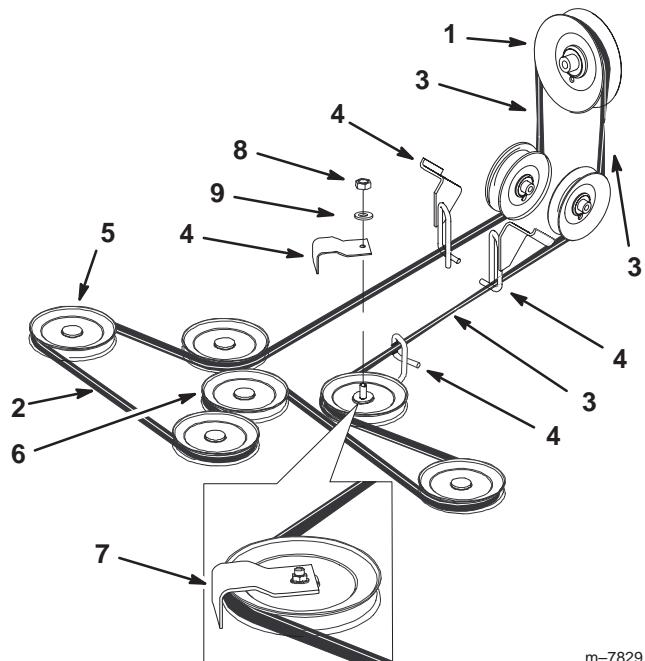

Figure 67
5. Remove the nut, washer and belt guide from the rear leftside pulley (Fig. 67).
6. Remove the mower belt from the belt guides and remove the belt (Fig. 67).
7. Install the new mower belt around the mower spindle pulleys, mower idler pulley, into the belt guides, into rear idler arm assembly, and the clutch (Fig. 67).
8. Install the belt guide with a washer and nut onto the rear leftside pulley (Fig. 67).
Important Check the amount of twist in the belt between the pulleys. Make sure it is only what is specified in Figure 67.